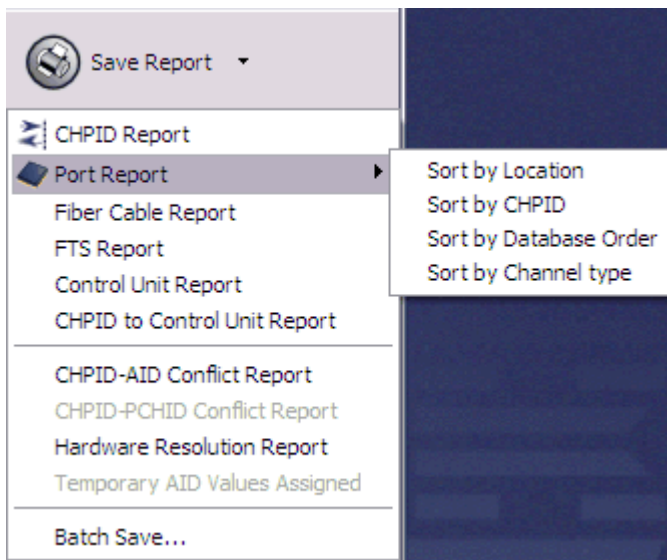

Figure 134. Additional options under Port Report
3. If you click **Port Report** you additionally need to click a **Sort by...** selection. Figure 134 on page 103 shows this.